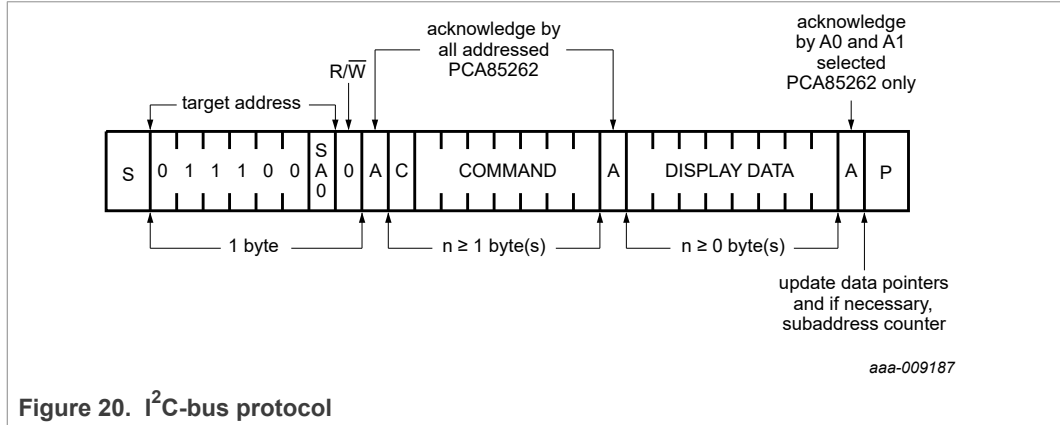

Figure 20. I2C-bus protocol
The I2C-bus protocol is shown in Figure 20. The sequence is initiated with a START condition (S) from the I2C-bus controller, which is followed by one of the two possible PCA85262 target addresses available. All PCA85262 whose SA0 inputs correspond to bit 0 of the target address respond by asserting an acknowledge in parallel. This I2C-bus transfer is ignored by all PCA85262 whose SA0 inputs are set to the alternative level.